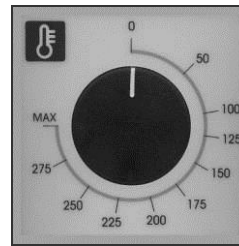

Fig. 2
**Programming cooking temperature** - Turn the knob of the adjustment thermostat (Fig. 2) in line with the temperature selected for cooking.